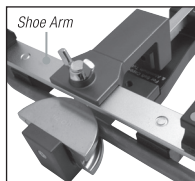

Fig. 12
2. Attach aluminum **MANDREL** then small or large **SHOE ARM** to match aluminum bender (Fig. 12).